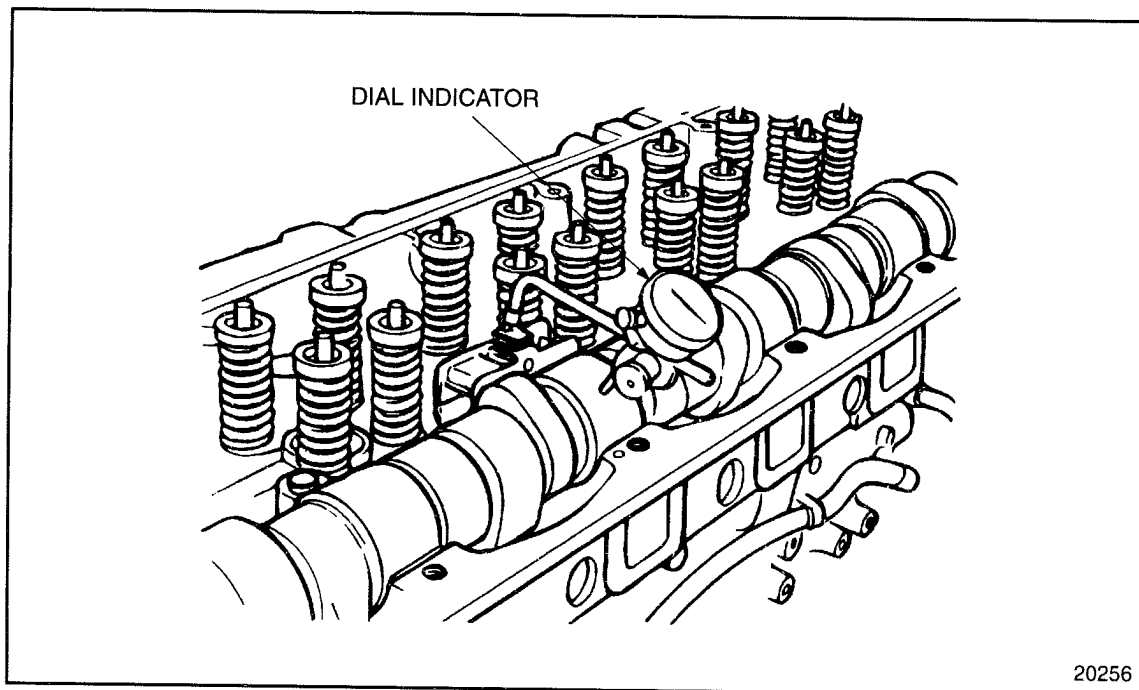

FIGURE 1-286 Camshaft Runout
- [n] Using a dial indicator with magnetic base, check the runout of the camshaft at the Number 4 bearing journal. See Figure 1-286.